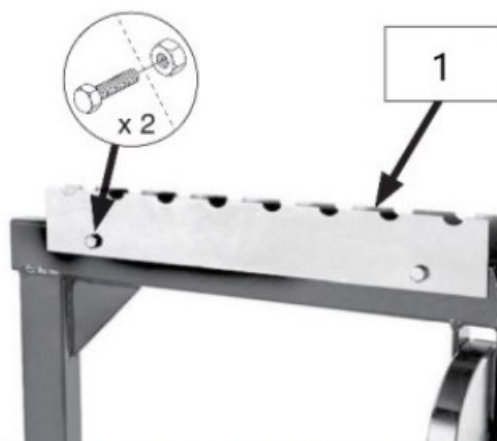

Fig. 9 – Installed cylinder holder
6. Fix the lower cylinder holder to the upper side of the frame with 2× hexagon screws ($\frac{1}{4}$ " – 20 × $\frac{1}{4}$ ") and 2× hexagon nuts ($\frac{1}{4}$ " – 20) (see Fig. 9).